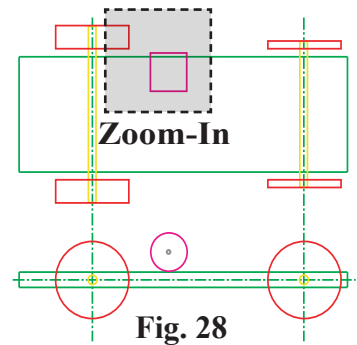

Fig. 28
Step 1. Zoom-in around the motor in the Top View. Use **F1** and make a zoom window, **Fig. 28**.